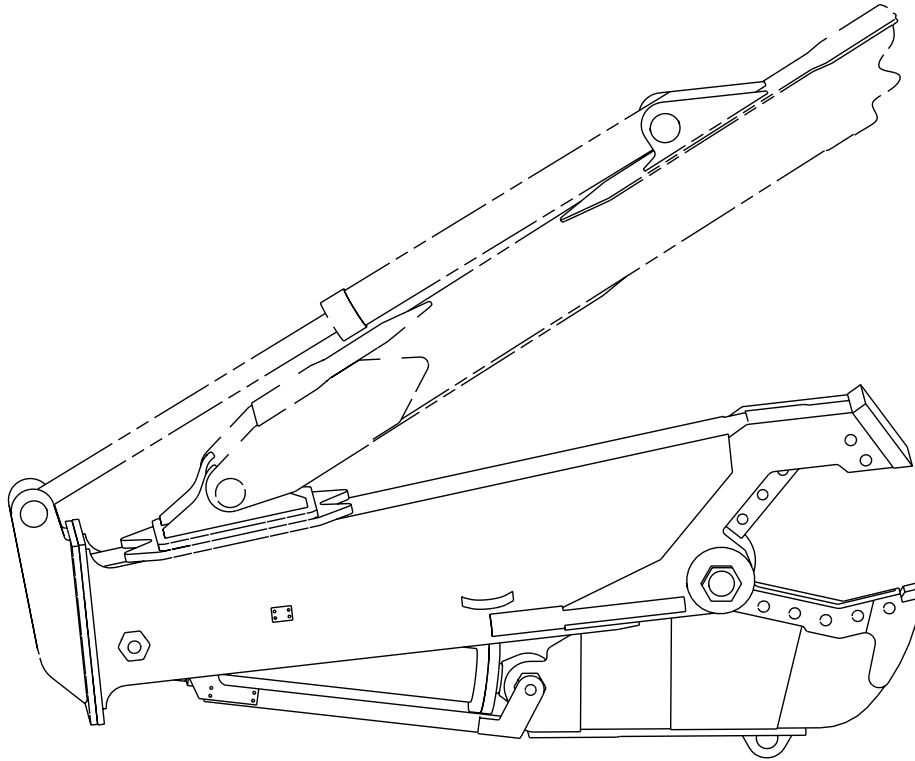

Figure 8-1. Shear Position for Field Welding Piercing Tip
1. For the best down-hand welding position, open the jaws and curl the shear up under the boom until it is in the position shown in Figure 8-1.